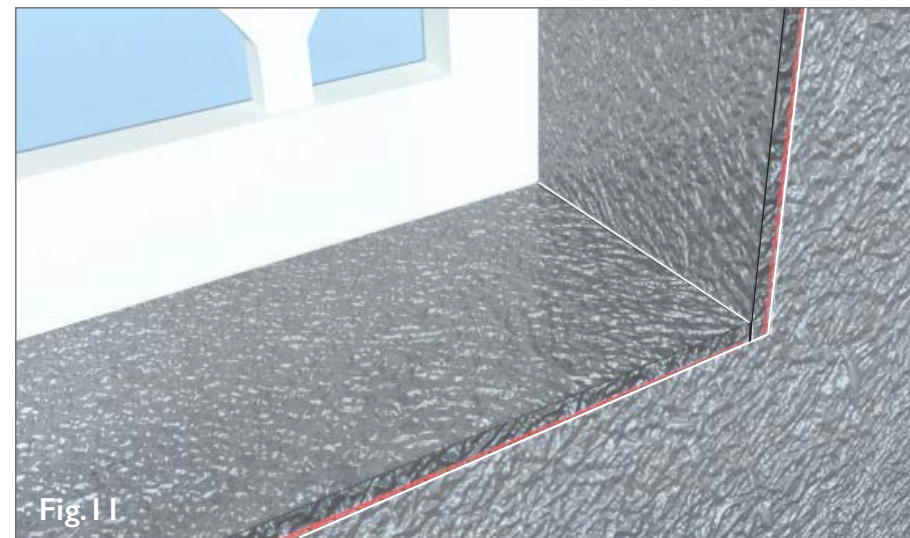

Fig.11
3. Continue cutting and installing Wraptherm strips within the reveal in the same manner, ensuring sufficient insulation overlap and abutting adjacent strips tightly together to ensure thermal continuity. (Fig.11)